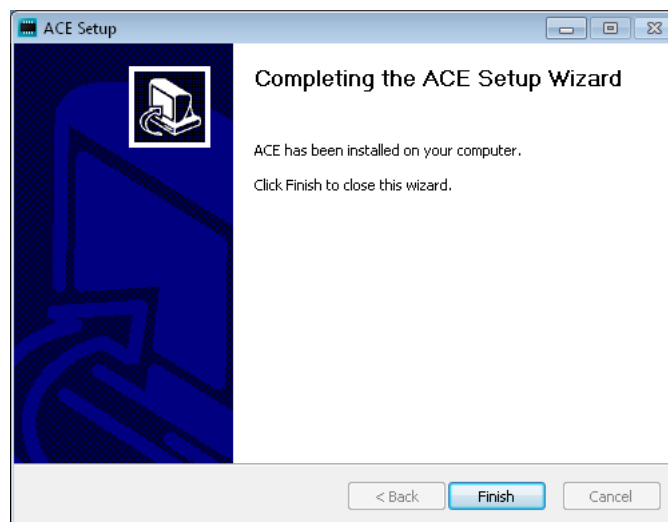

Figure 2.5: ACE Setup Wizard Step 5
Step 5: ACE is now installed, Figure 2.5. Click “Finish” to exit the wizard.